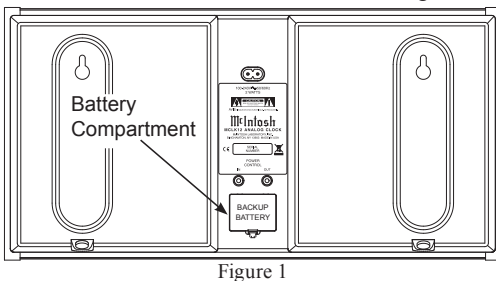

Figure 1
Access to the recessed battery compartment is located on the Rear Panel of the MCLK12. Refer to figure 1.
1. Disconnect the AC Power Cord from the Rear panel of the McIntosh MCLK12 Clock. Refer to figure 1.